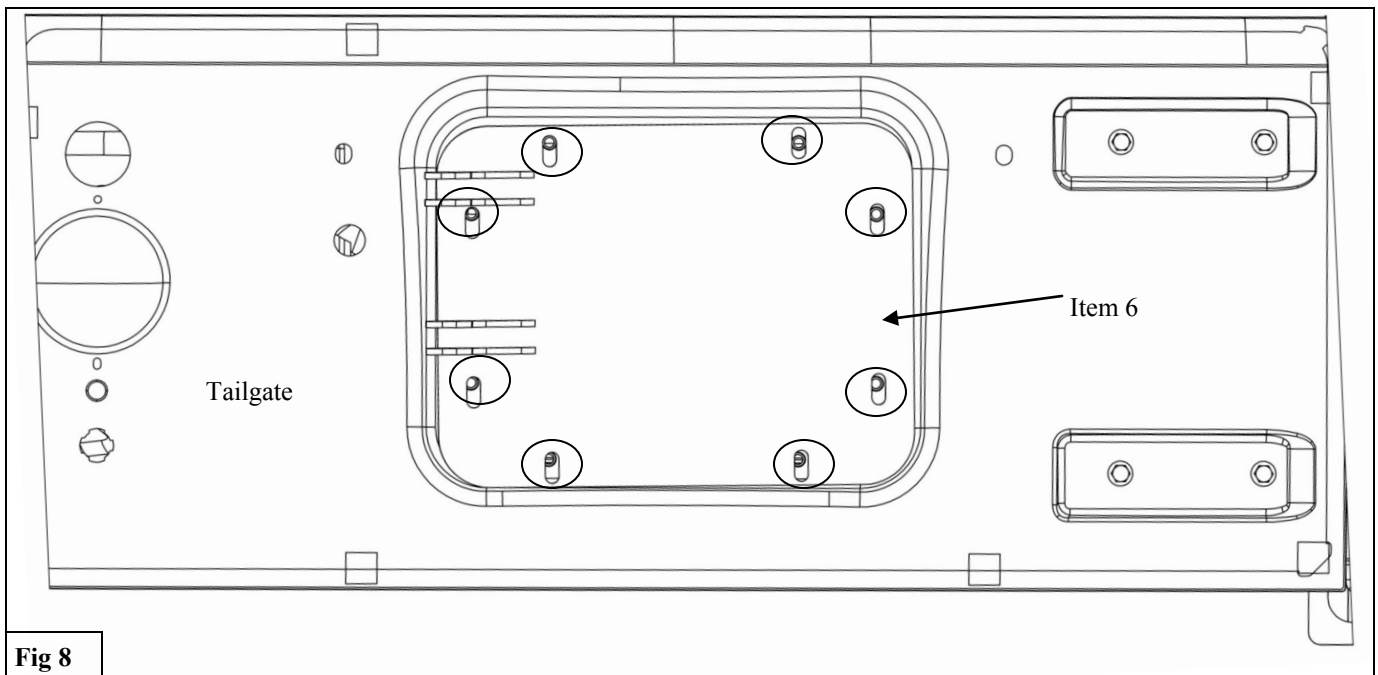

Fig 8
10. Install the Tailgate Mount (6) on the vehicle using the supplied M8 Hardware. See **Figure 8**. *Note:* The vertical slots allow adjustment when aligning the tire carrier gate.